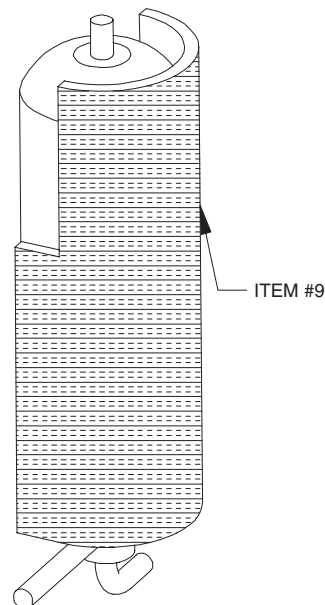

Fig. 8 — Economizer Front Wrap
1. Apply the economizer front wrap (Item 9) to the front surface of the economizer, as shown in Fig. 8. The bottom of the notched portion of the economizer front wrap should be aligned with the top of the economizer brackets.